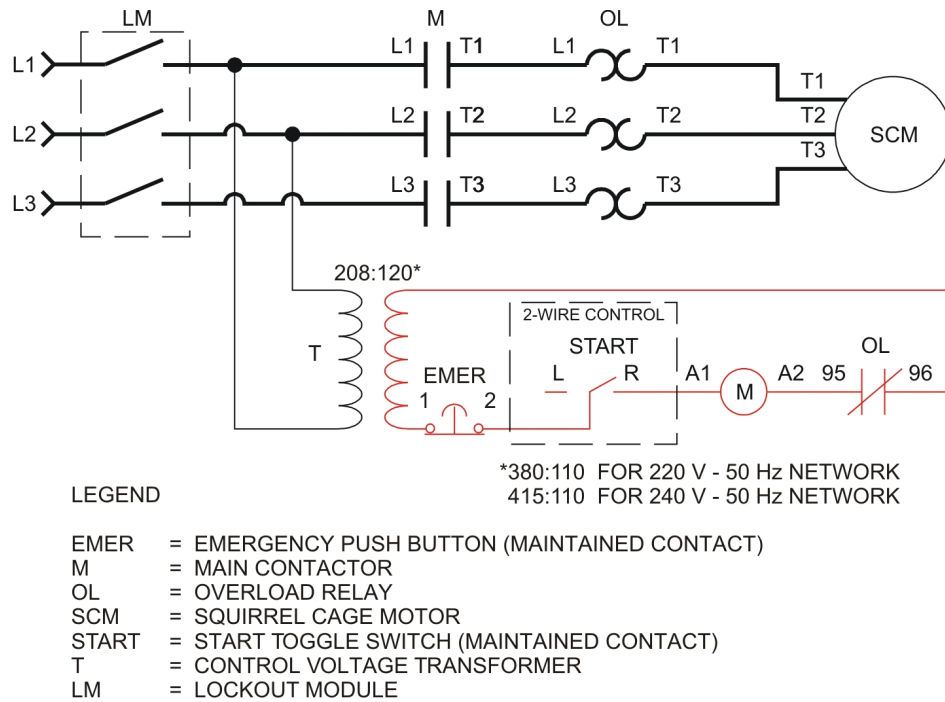

Figure 3-6. Two-wire control circuit.
Figure 3-6 shows a two-wire control circuit. When the control contact closes, the coil (M) is energized. The power contacts close, causing the motor to start. When the control contact opens, or power is removed from the circuit, the coil (M) de-energizes, opening the power contacts and stopping the motor. When power returns, if the control contact is closed, the motor restarts automatically.
Connect the circuit shown in Figure 3-6.